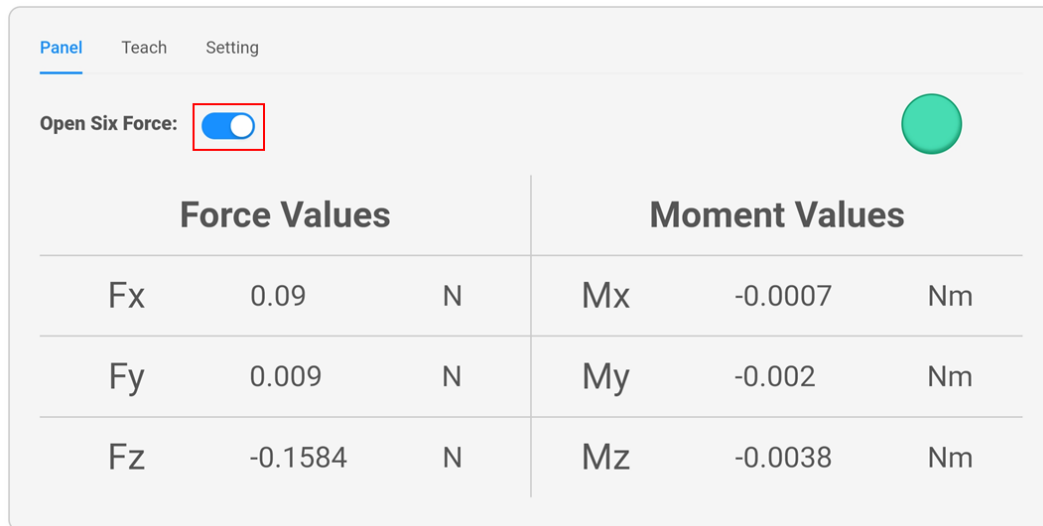

Figure 3.7 Open six force
Step 5 Enable **Open Six Force**, as shown in Figure 3.7. The Teach and Setting tabs are displayed on the page. You can reset and calibrate the sensor in Setting tab, and adjust the dragging mode and speed in Teach tab. For detailed operations, see *4Sensor Calibration and Functions*.